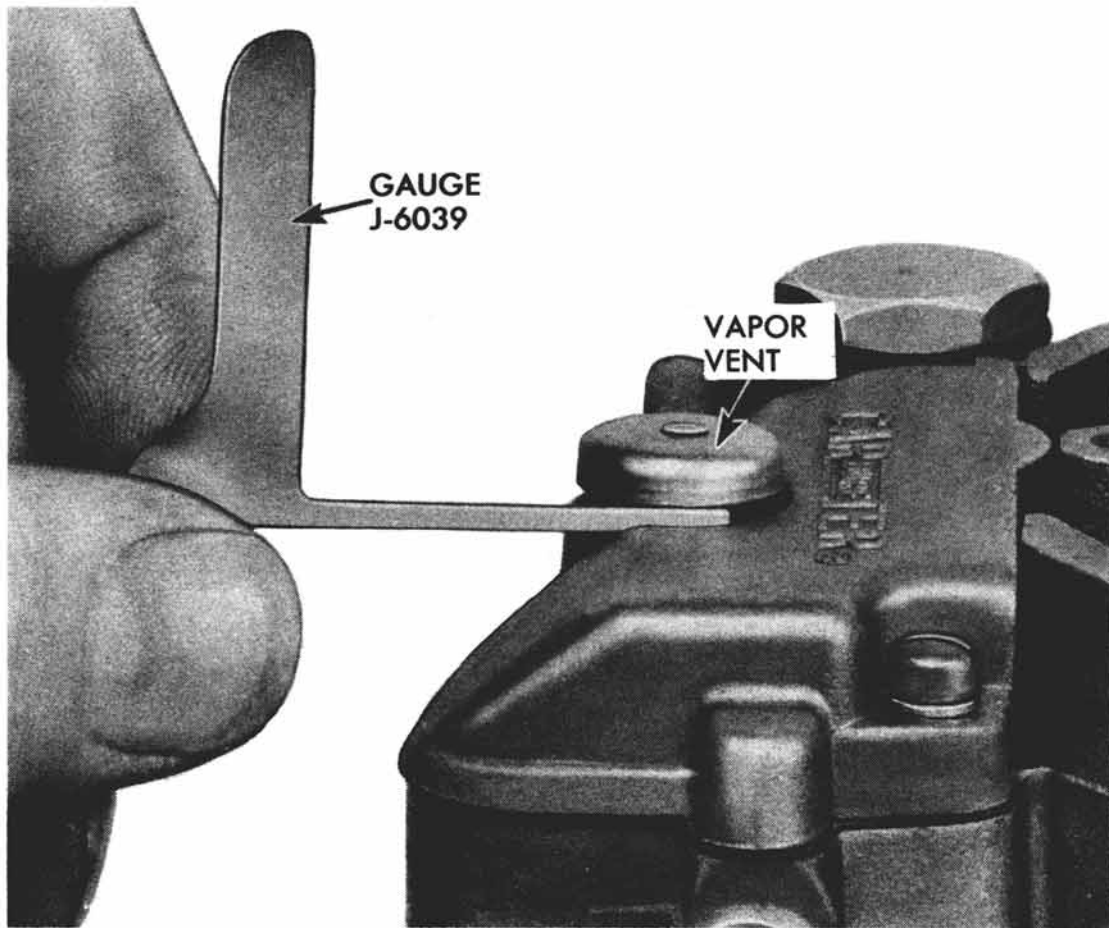

Fig. 18-C Bowl Vapor Vent Adjustment
2. Using a new cover gasket, install dust cover (Fig. 18-C) and check the vapor vent adjustment as follows:
2. Insert gauge J-6039 between lower edge of vapor vent and well in dust cover (Fig. 18-C).